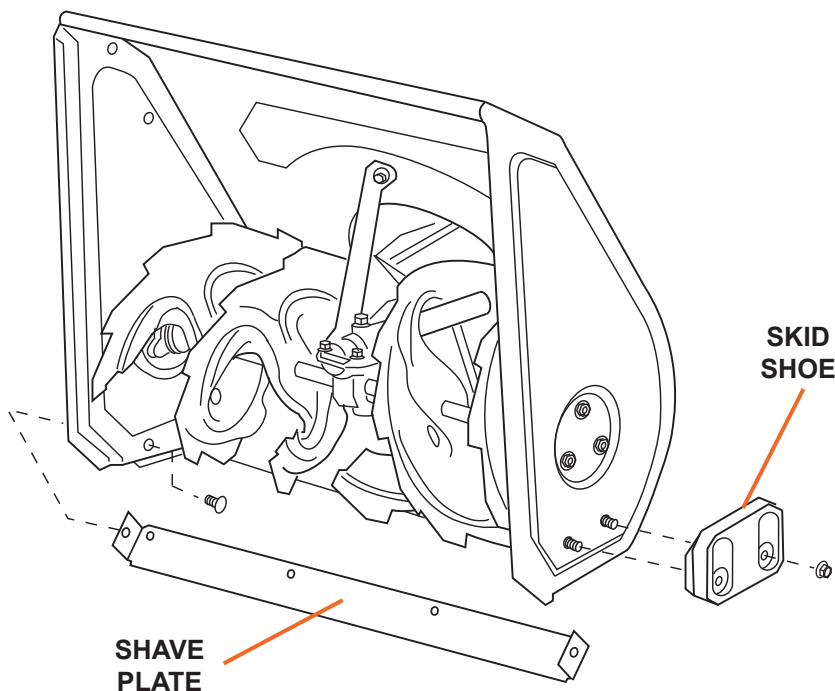

Figure 21
1. Remove the four carriage bolts and hex flange nuts which secure them to the snow blower (see Figure 21).
1. Remove the carriage bolts and hex nuts which attach it to the snow blower housing (see Figure 21).